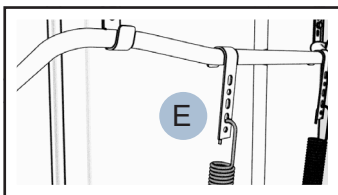

Fig. 7 - Door Spring Hooks (E) Tension Adjustment
5. Disconnect the door linkage arm (C) from the other door but do not discard.
7. Adjust the door spring hooks (E) located at the rear of dishwasher to reduce door spring tension until the front and side doors open and close without binding (see Fig. 7).